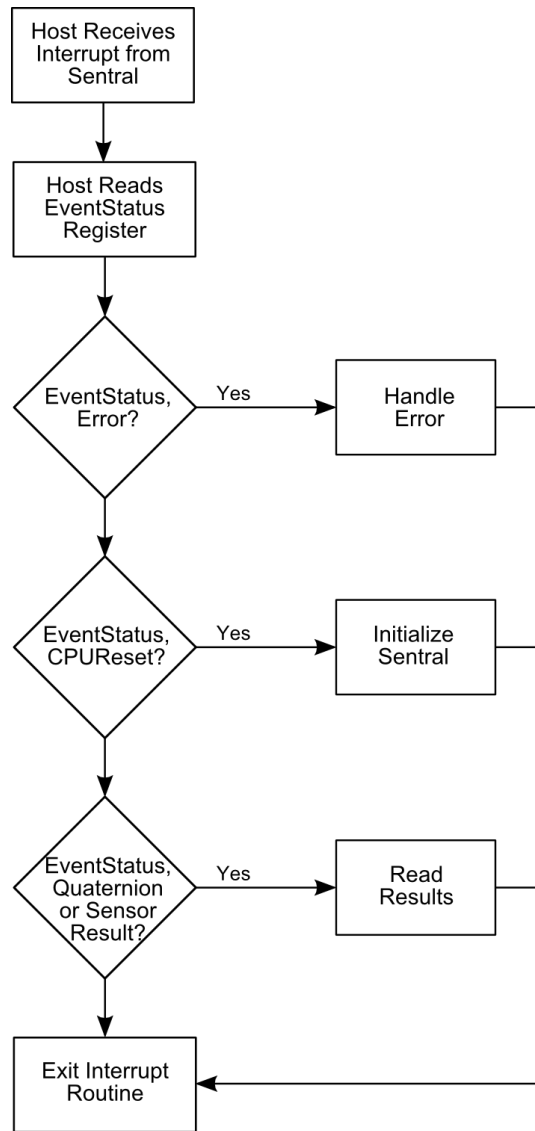

Figure 5-3: SENtral Normal Operation Flow
- d) Interpret and act on the EventStatus register in the priority shown in Figure 5-3. If bit [1], the Error bit, is '1', see Section 5.2.1. If bit [0], the CPUReset bit, is '1', see Section 5.2.2. If bits [2], [3], [4], or [5], the Results bits, are '1', see Section 5.2.1.
Reading the EventStatus register clears it. It is possible for more than one bit position to be '1' in the EventStatus register, especially if the host does not always read the EventStatus register after receiving an interrupt. Similarly, if multiple bits are set to '1' in the EventStatus register, once the register is read all the bits will be set to '0'. For this reason the EventStatus register should be processed in the priority shown in Figure 5-3, as information will be cleared for events that are not handled.